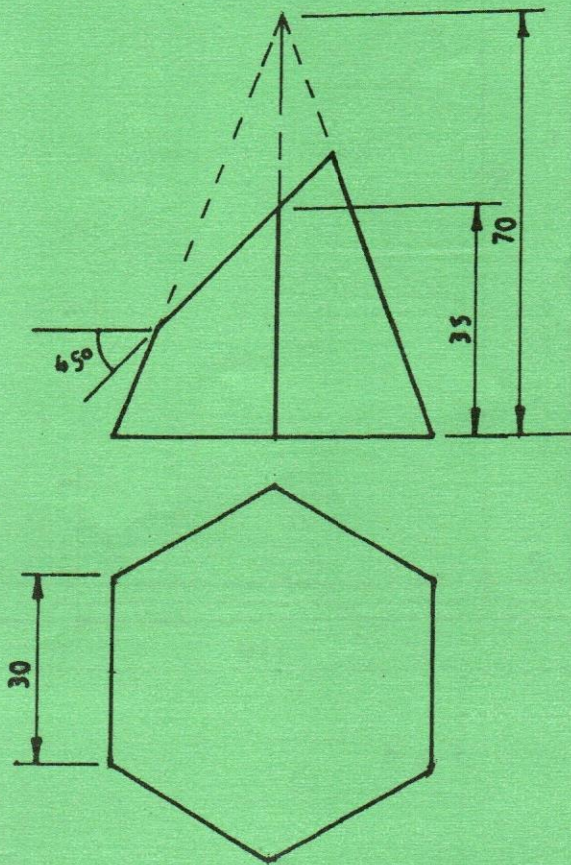

Fig. 3
3. ✓ Figure 3 shows a hexagonal pyramid whose axis is 70 mm long. It is cut by a sectional plane at 45° inclined to the horizontal plane and passing through the mid point of the axis. Copy the given views and: